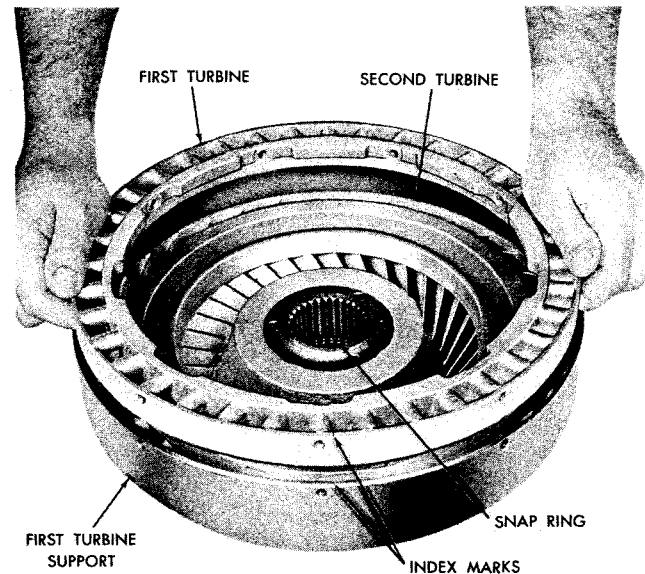

Fig. 6-8. Installing first turbine
(6) Install the first turbine into the first turbine support and align the V-groove index marks (fig. 6-8).